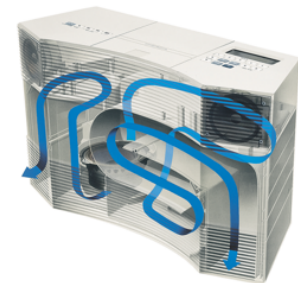

Abbildung 13
- Abbildung 13 http://worldwide.bose.com/aim/assets/images/en/content/lc_waveguide_story_solution.jpg